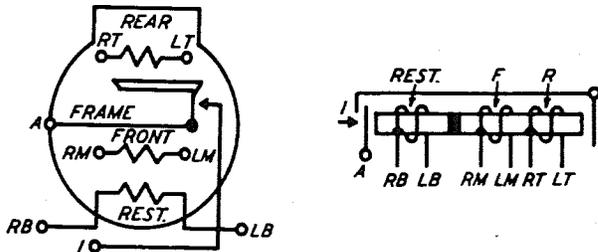

FIG. 9-WINDING AND SPRING TERMINAL ARRANGEMENT AS VIEWED FROM THE REAR (TERMINAL SIDE)-44 TYPE RELAY
2.29 The armature (frame terminal) is designated A and the front contact is designated 1. The winding terminals are designated as shown in Fig. 9.